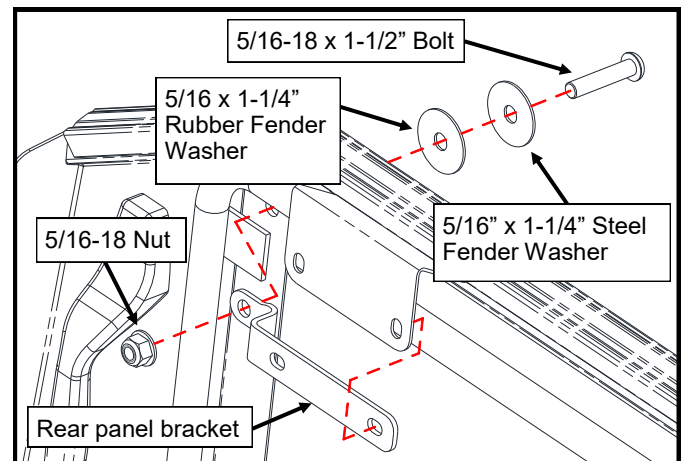

Figure 10.4: Rear Panel to Screen Bolts
- 10.4 For the upper two holes, place a rear panel bracket inside the screen frame and under the rear panel tabs (see Figure 10.4) and align the brackets to the drilled holes. Install 5/16-18 x 1-1/2" bolts, 5/16" I.D. rubber and steel fender washers and 5/16-18 nuts through all four drilled holes in the rear panel and screen frame. Tighten snug.